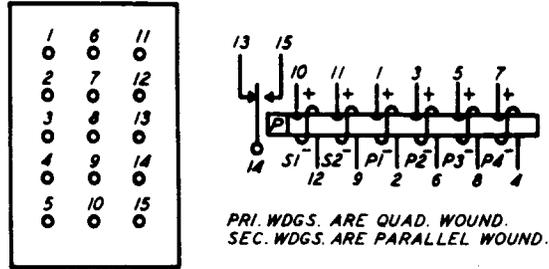

FIG. 21 - WINDING AND SPRING TERMINAL ARRANGEMENT AS VIEWED FROM THE REAR (TERMINAL SIDE) - 209 TYPE RELAYS
2.19 Facing the rear of the relay, the contact and winding terminals are numbered as shown in Figs. 21, 22, 23 and 24. On the 209 type relay, numbers 1, 6 and 11, shown on Fig. 21 are cut in the